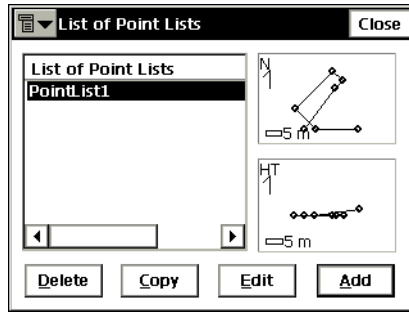

Figure 4-21. List of Point Lists
1. To add a point list, tap the Add button in the *List of Point Lists* screen (Figure 4-21).